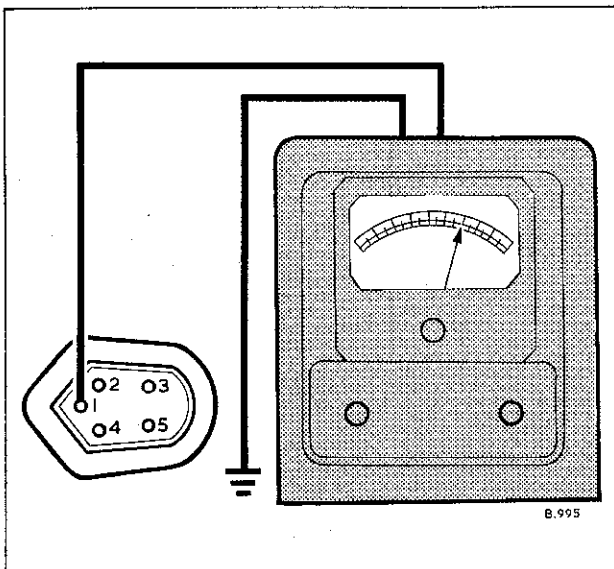

Fig. 5 Continuity check at cavity No. 1
**Cavity 1.** With the voltmeter negative lead still connected to a good earth point, connect the voltmeter positive lead to No. 1 cavity of the connector (Fig. 5) DO NOT USE ANY PART OF THE CONTROL UNIT FOR EARTH CONNECTIONS.